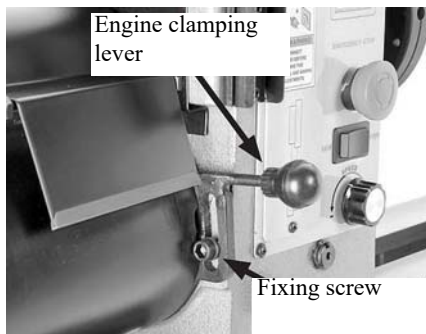

Fig. 11: Loosen motor mounting screw
Step 3: Loosen the motor fixing screw (Fig.11).
Step 5: Tighten the engine mounting screw (Fig.11).
Step 7: Loosen the motor mounting screw (Fig.11)
Step 9: Tighten the motor fastening screw (Fig.11).